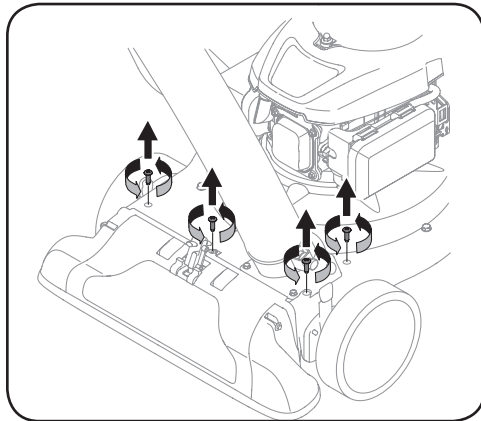

Figure 5-6
6. Remove the four screws on the upper housing that secure the nozzle cover. See Figure 5-6.